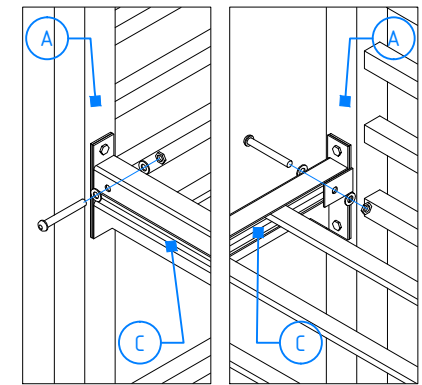

Fig. 2
Do the same with the top platform (C) and reinforce with the screws, washers and nuts (F+G+H+I) in the four corners. Fig 2.